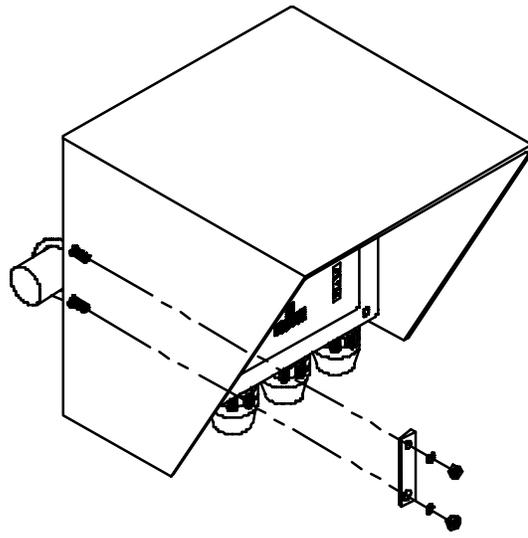

Figure 14
3. Securely fasten the 6500 Monitor with the mounting screws, provided, to the Weather Shield, as shown in Figure 14.